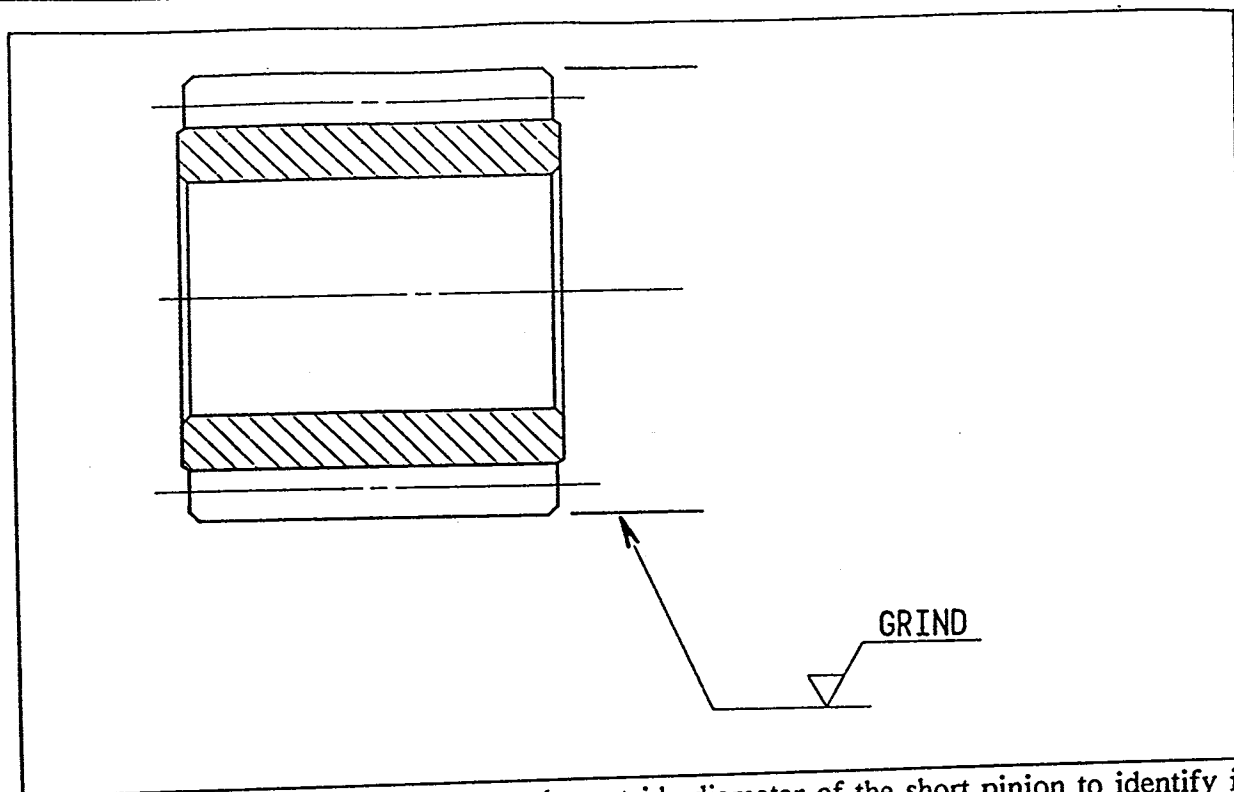

Figure 6 : Sketch of the grinding on the outside diameter of the short pinion to identify it as a new design pinion.
- d. Short planet pinions are identifiable by their ground outside diameter. Refer to Figure 6.